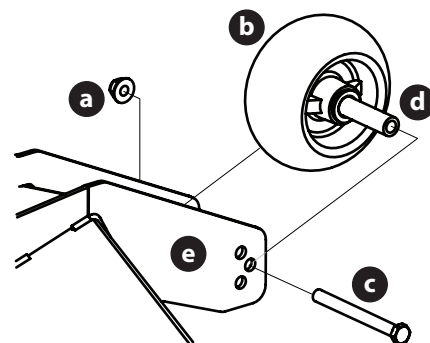

Figure 15
2. Remove the lock nut (a) securing one of the front gauge wheels (b) to the deck. Remove the front gauge wheel (b), hex screw (c) and spacer (d) (Figure 15).
3. Insert the hex screw (c) into one of the three index holes in the front gauge wheel bracket (e) that will give the front gauge wheel (b) a 1/4-1/2" clearance with the ground (Figure 15).
4. Note the index hole of the just-adjusted front gauge wheel (b), and adjust the other front gauge wheels (b) into the respective index hole of the other front gauge wheel bracket (e) (Figure 15).